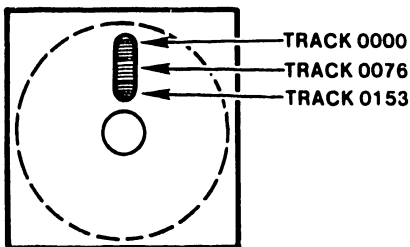

FIGURE 3 TRACK 0076 LOCATION
4. Initiate an alternate seek to cylinder 0076 (track 38, side 0) by typing in FROM CYL=0076, TO CYL=0076. See Figure 3 for track 0076 location.